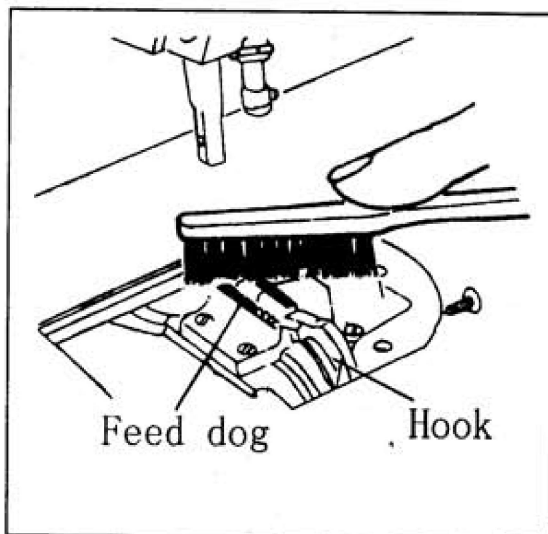

Fig. 31
23. REGULAR CLEANING (Fig.31,32,33)
1) Cleaning feed dog (See Fig.31)